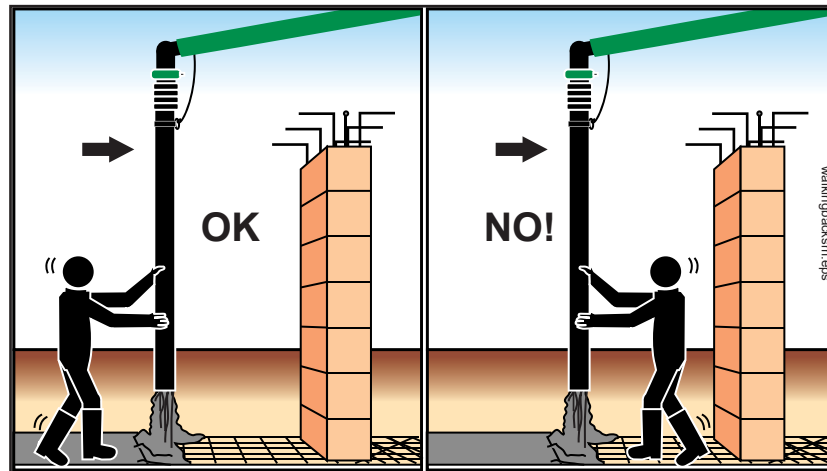

Figure 93
- 17.14** **⚠ WARNING** The hose man should not walk backwards (Figure 93). Walking forward will allow him to see obstacles and avoid tripping.
- 17.15** **⚠ WARNING** The hose man should never position himself between the boom or boom hose and any fixed object like a wall or column (Figure 93).